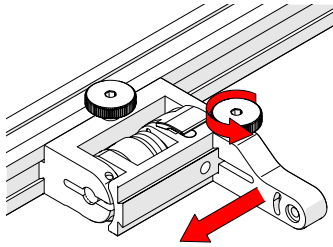

Fig. 150 - Position swing arm
5. Loosen the swing arm knob and slide the swing arm to the opposite end of the probe holder bracket (*Fig. 150*) or preferred position. Tighten swing arm knob.